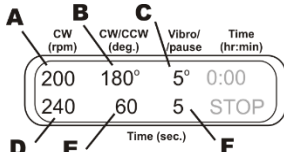
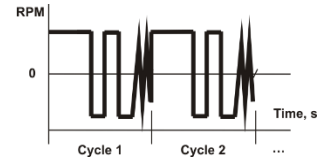

Figure 4.
Figure 5.
6.9.2 **Rotational + Reciprocal + Vibro motions.** Set the speed (40-1000 rpm, fig. 4/A) and time (1-250 s, fig. 4/D) of rotational motion. Set the angle (30-360°, fig. 4/B) and time (1-250 s, fig. 4/E) of reciprocal motion. Reciprocal and rotational motions have the same speed. Set the turning angle (1-5°, fig. 4/C) and time (1-5 s, fig. 4/F) for vibro motion. Graph in figure 5 shows motion in this mode.